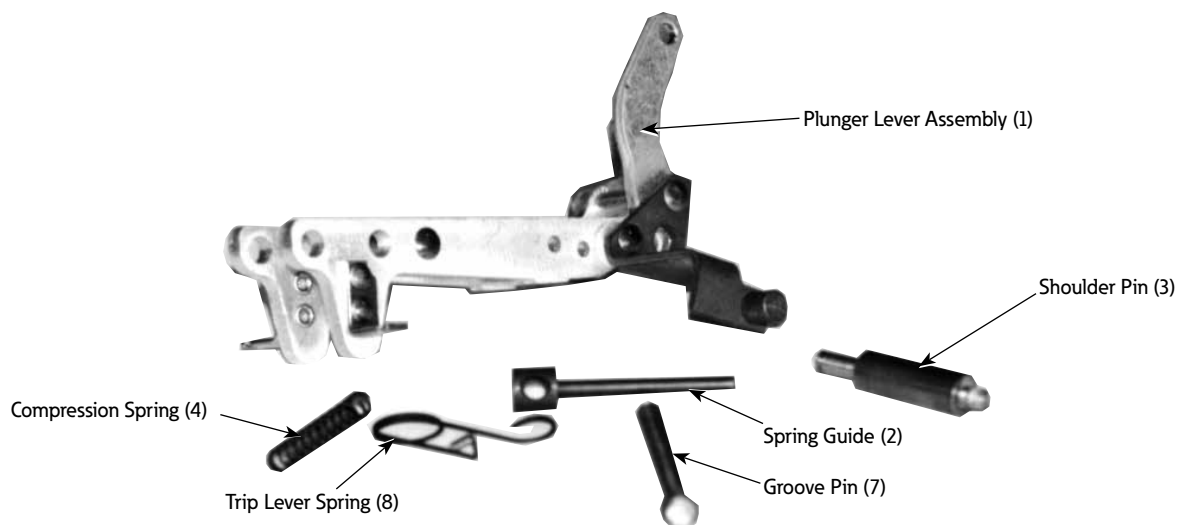

Figure 8. Mechanism kit parts.
1. Remove the four main springs (item 7) and four main spring yokes (item 5 on drawing number LA78C).
2. Disconnect straight line motion link from pivot pin by removing two retaining rings that connect pivot pin (item 15) to mechanism casting.
3. Remove groove pin (item 28) to allow clearance for disassembly and reassembly. Replace with groove new pin from kit.
4. Remove retaining ring (item 12 on drawing LA78C) from pivot pin (item 16) connecting the straight-line motion link, and remove pivot pin.
5. Remove wire spring clip (item 9) on drawing LA78C, and remove pivot pin (item 10) pivot pin.
7. Remove old plunger lever assembly (See Figure 8).